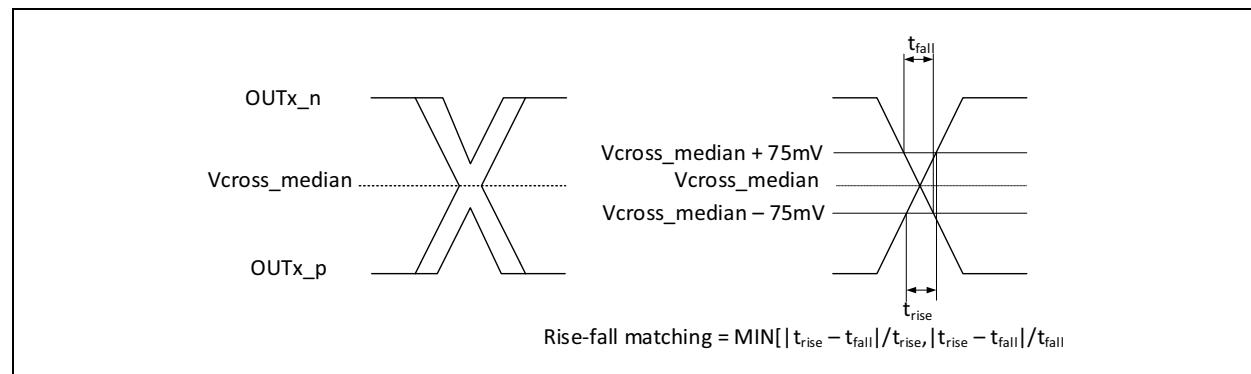

FIGURE 1-3: Single-Ended Measurement Points for Rise and Fall Time Matching.
- 11:** Matching applies to rising edge rate for $OUTx_p$ and falling edge rate for $OUTx_n$. It is measured using a $\pm 75 \text{ mV}$ window centered on the median cross point where $OUTx_p$ rising meets $OUTx_n$ falling. The median cross point is used to calculate the voltage thresholds the oscilloscope is to use for the edge rate calculations. The Rise Edge Rate of $OUTx_p$ should be compared to the Fall Edge Rate of $OUTx_n$; the maximum allowed difference should not exceed 20% of the slowest edge rate. See Figure 1-3.